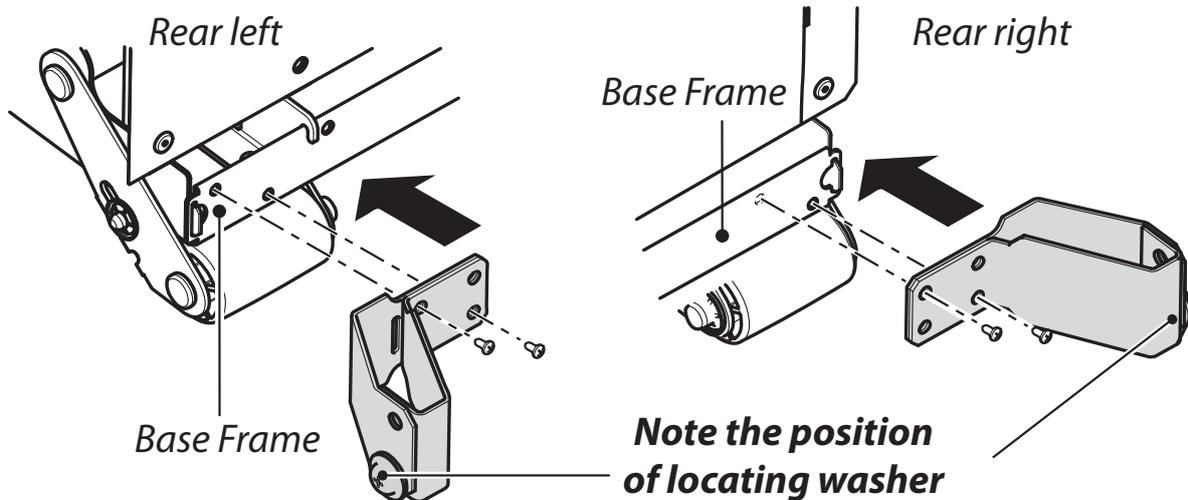

Fig. 9.8
1. Located at the bottom left and right **rear** corner of the range, remove the two screws (**Fig. 9.8**).
2. Fit the left and right retaining brackets to the base frame and refit and tighten the screws (**Fig. 9.8**).